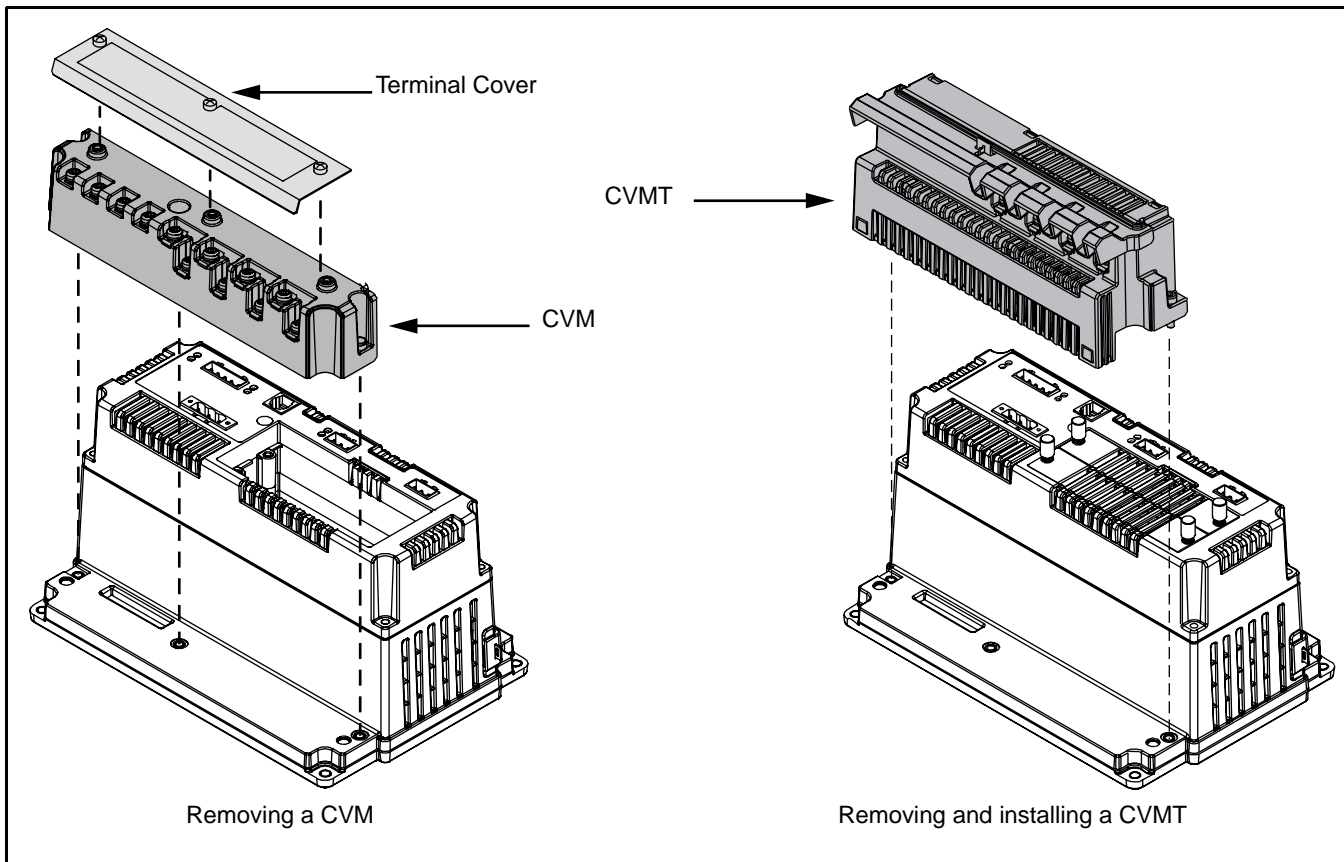

Figure 1: Removing a CVM or CVMT and installing the CVMT.
The following steps explain how to remove a CVM or CVMT and install a CVMT. Refer to Figure 1.
- a. Disconnect the metered voltage by removing the fuses from the potential transformer (PT) or from the voltage disconnect.
- b. Short circuit the current transformer (CT) secondaries to disconnect the metered current.
5. Loosen the three Allen-head screws of the CVM until they disengage. Pull the CVM or CVMT straight up until it disengages from the circuit monitor, as shown in Figure 1.